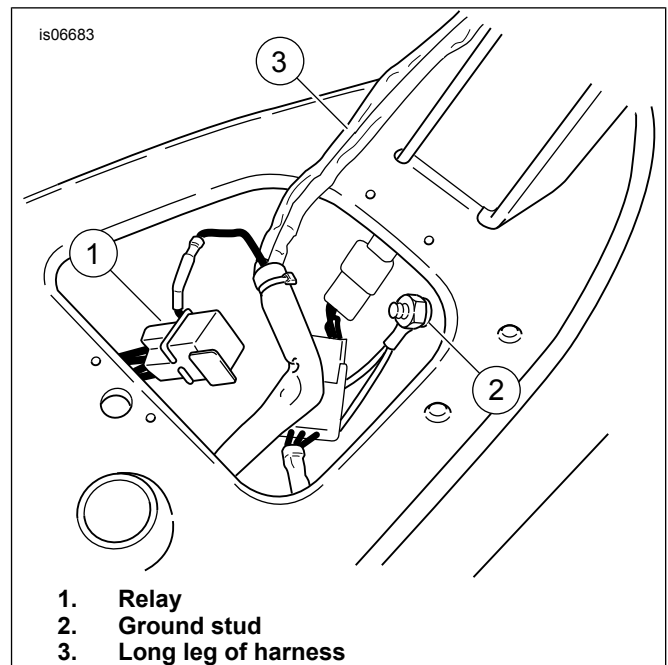

Figure 5. Install Wiring Harness (FXDWG shown)
11. See Figure 5. Install the wiring harness. Place the relay (1) in the opening in the seat pan, and route the long leg of the harness (3) along the frame backbone.